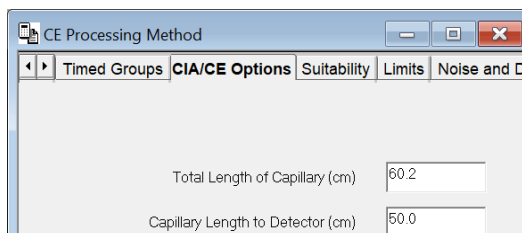

Figure 4: Capillary effective length entry in empower processing method.
5. Click the CIA/CE Options tab in the CE Processing Method (Figure 4).